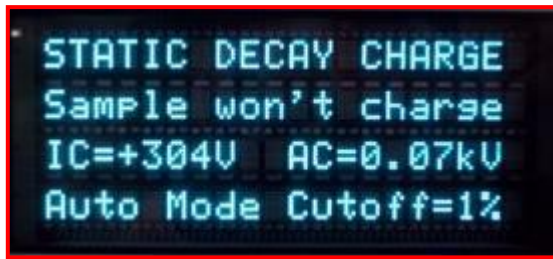

Figure 6-2: Display for a sample that won't charge
- b. If the sample does accept at least 250V/sec after the charging voltage is applied, it will continue to be charged for 60 seconds at which time the amount of charge accepted due to the applied charge will be displayed as **AC=**. If the sample does not increase after the 5.00kV has been applied the test will be aborted and the display will read "**Sample won't charge**" as shown in Figure 6-2. A material with these characteristics is generally very insulative and any field detected is charge residing on the surface of the sample.